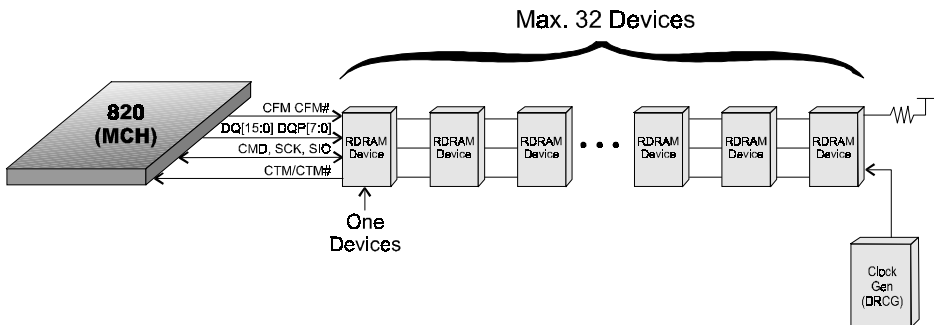

Figure 10: MCH/RDRAM Interconnections
- The EP-6CXA2C supports a maximum of 32 devices on a RDRAM channel A Channel as defined as the three RIMM Slots on the motherboard added together. Thus the motherboard has one channel. See Figure 10 for RDRAM interconnections.
The figure 10 below shows the RSL interconnections between 820 (MCH) and one RDRAM channel. This figure describes the logical interconnections, and is not a physical representation of RDARM devices on a motherboard.